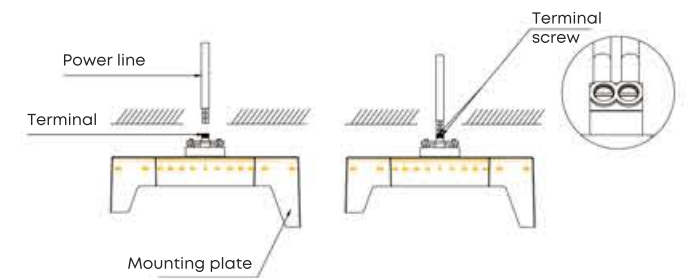

Figure-2 & 3
- 1) Connect the power cable to the wiring terminal of the installation plate, and use a flat-head screwdriver to tighten the screws fixing the terminal wire, as shown in Figure-2 & 3.